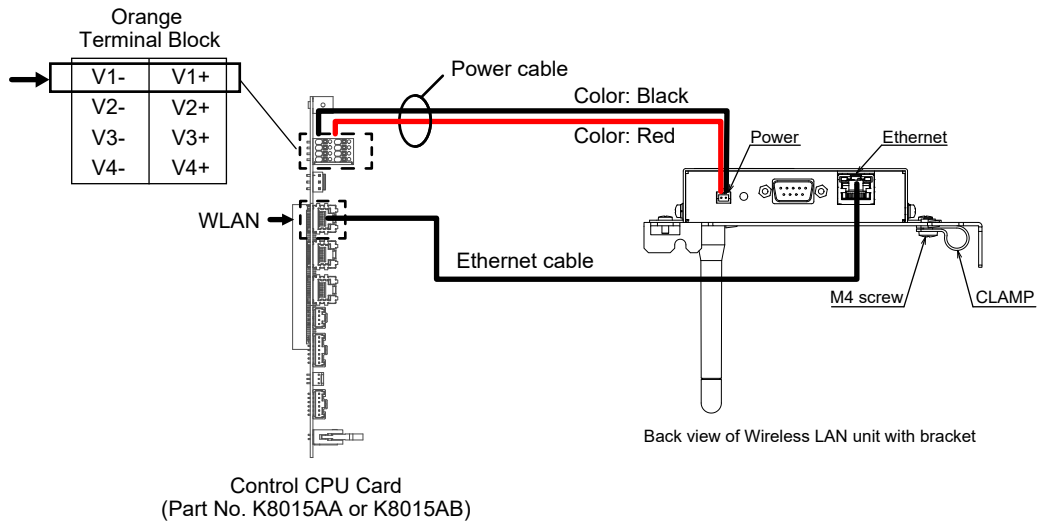

Figure 2.50
- (2) Perform the wiring on the Wireless LAN UNIT side. Power cable and Ethernet cable should be wired to the product in advance before performing steps (3) (see Figure 2.50 for cable connection points on the product side).
- (4) Wire the GC8000 Control CPU Card (Part No. K8015AA or K8015AB) according to Figure 2.50. For the Power Cable, connect the red cable to terminal “V1+” and the black cable to terminal “V1-”. For the Ethernet Cable, wire to the Ethernet port (port name: WLAN).